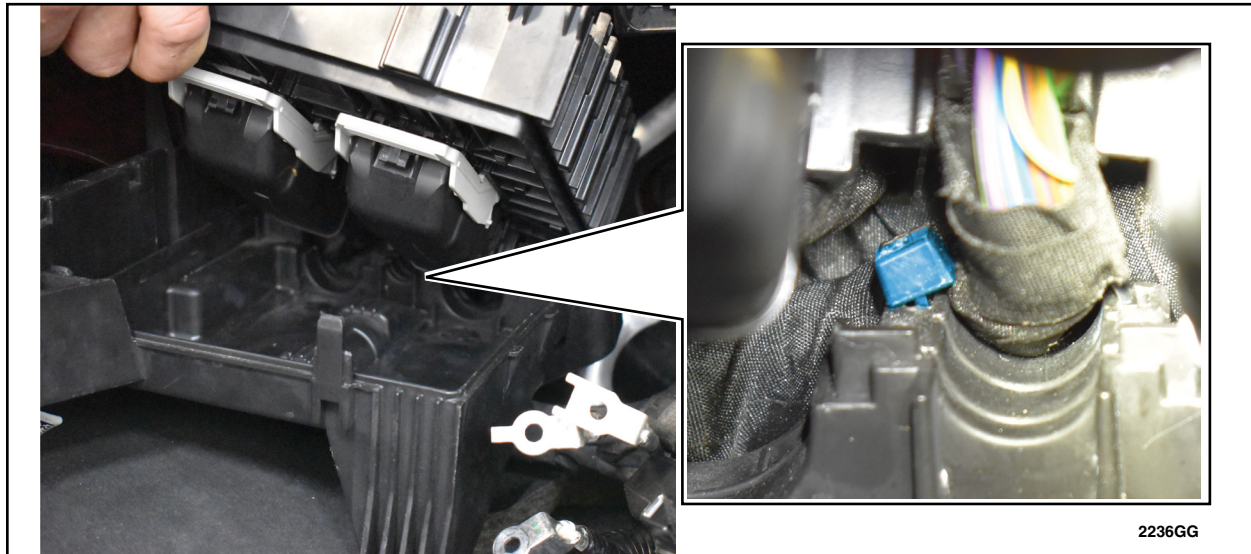

FIGURE 12
13. Position BJB, remove the zip tie connecting the middle wire harness to the lower portion of the BJB. See Figure 12.